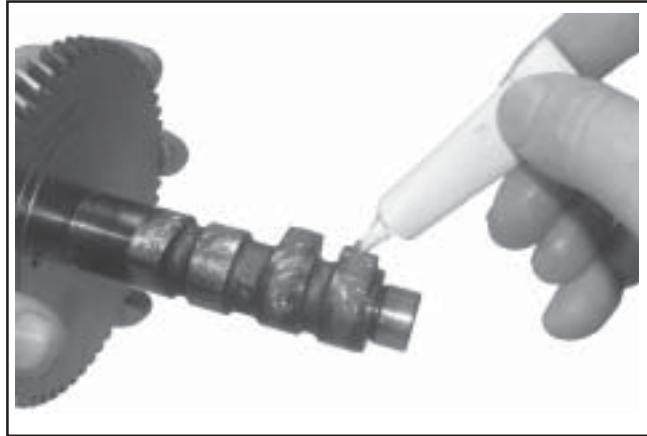

Figure 11-12. Apply Camshaft Lubricant to Cam Lobes.
1. Liberally apply camshaft lubricant (see Section 2) to each of the cam lobes. Lubricate the camshaft bearing surfaces of the crankcase and the camshaft with engine oil. See Figure 11-12.